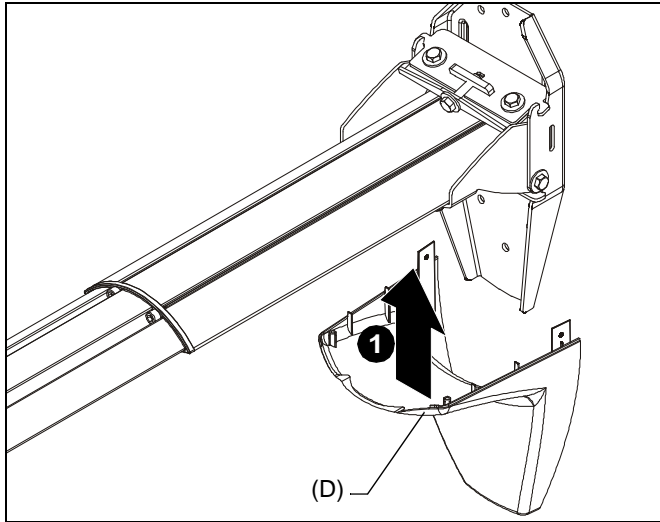

Figure 12
1. Raise lower cover (D) up to wall mount assembly. (See Figure 12)